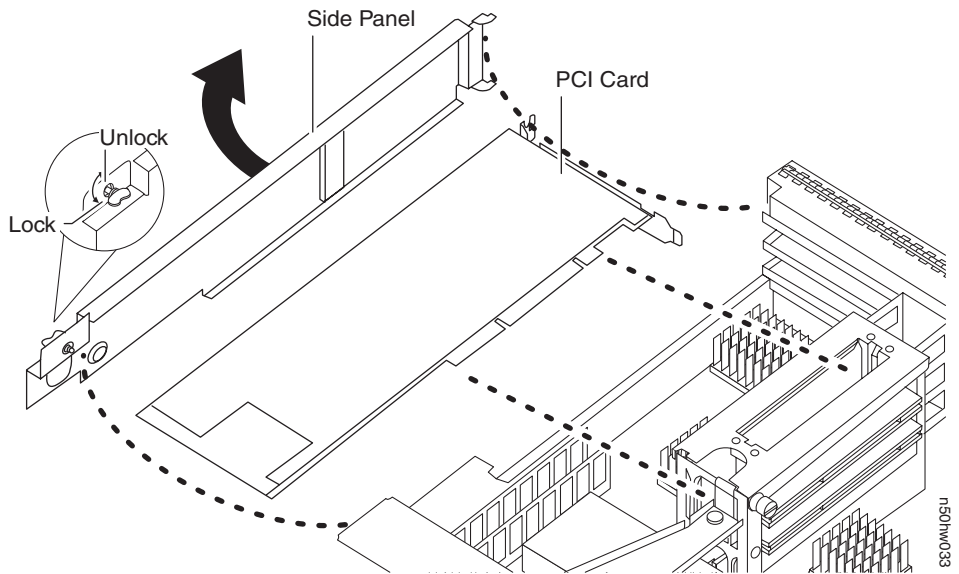

Figure 18. Removing PCI adapters
2. Remove the PCI adapters by completing the following substeps, using Figure 18 on page 45 (which shows an N5300 or N5600) for reference: